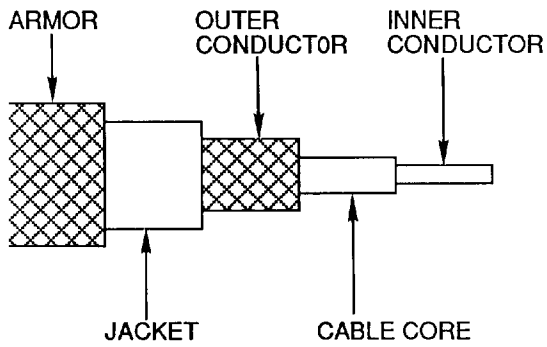

Figure 2. Coaxial Cable
a. **COAXIAL.** A coaxial cable may be defined as two concentric wires, cylindrical in shape, separated by a dielectric of some type. One wire is the center conductor and the other wire is the outer conductor. These conductors are covered by a protective jacket, and this jacket may, in cases, be covered by a protective armor (Figure 2).